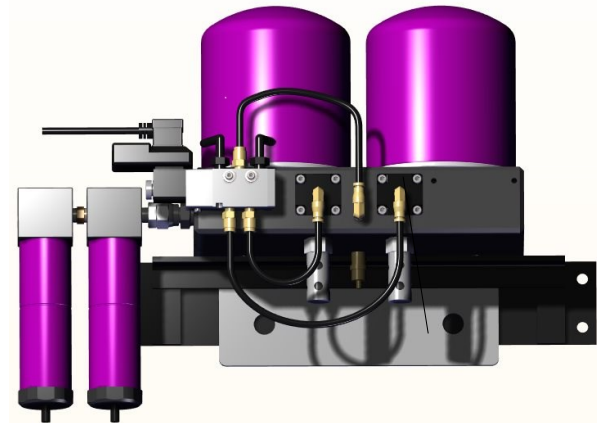

Figure 3
9. (21999-1105-MM MODELS ONLY) Use provided black nylon tubing to connect Moisture Minder® Filter Drains to "T" fitting located on dryer housing. Excess tubing can be cut to length. *Figure 3*